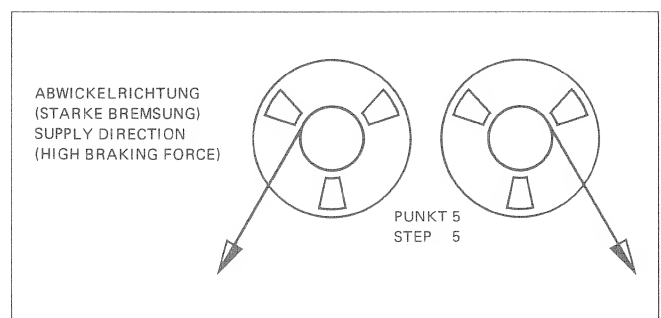

Fig.3.5
5. **Braking force adjustment in supply direction (heavy braking)** -> Fig.3.5